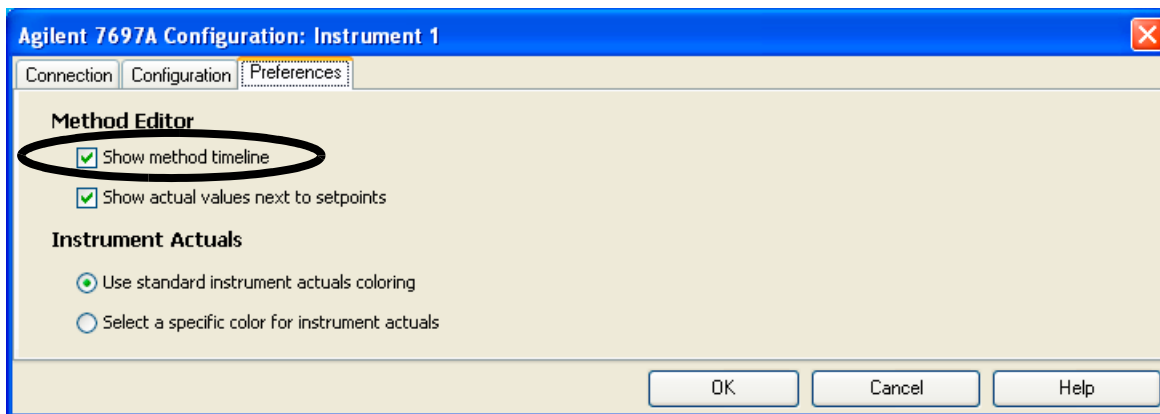

Figure 11 Setting the Method Editor and Instrument Actuals preferences
- 5 Select the **Preferences** tab (Figure 11) to configure the Method Editor and Instrument Actuals preferences.